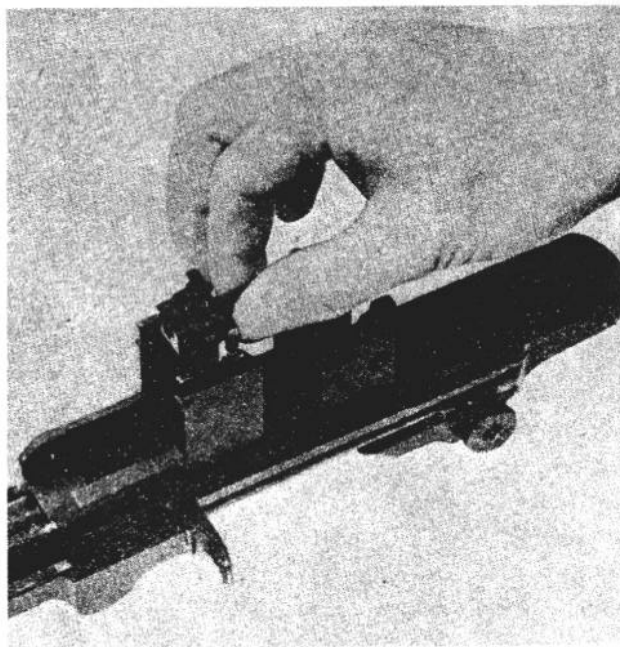

Figure 12. Replacing the follower assembly.
e. Turn the barrel and receiver group over so that the sights are down and the muzzle is to the left. Replace the follower assembly so that its guide ribs fit into their grooves in the receiver. Make sure that the slide of the follower is down and that the square hole is to the rear (fig. 12). The slide will rest against the bolt.